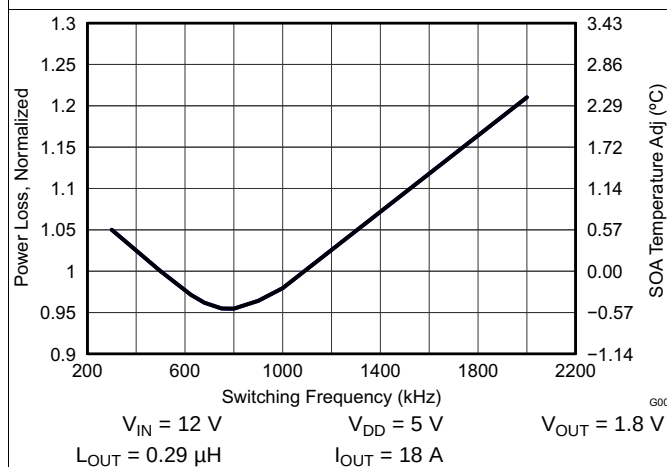

Figure 5. Normalized Power Loss vs Frequency
- Normalized power loss for switching frequency ≈ 1.09 (Figure 5)
- SOA adjustment for switching frequency $\approx 1.1^\circ\text{C}$ (Figure 5)